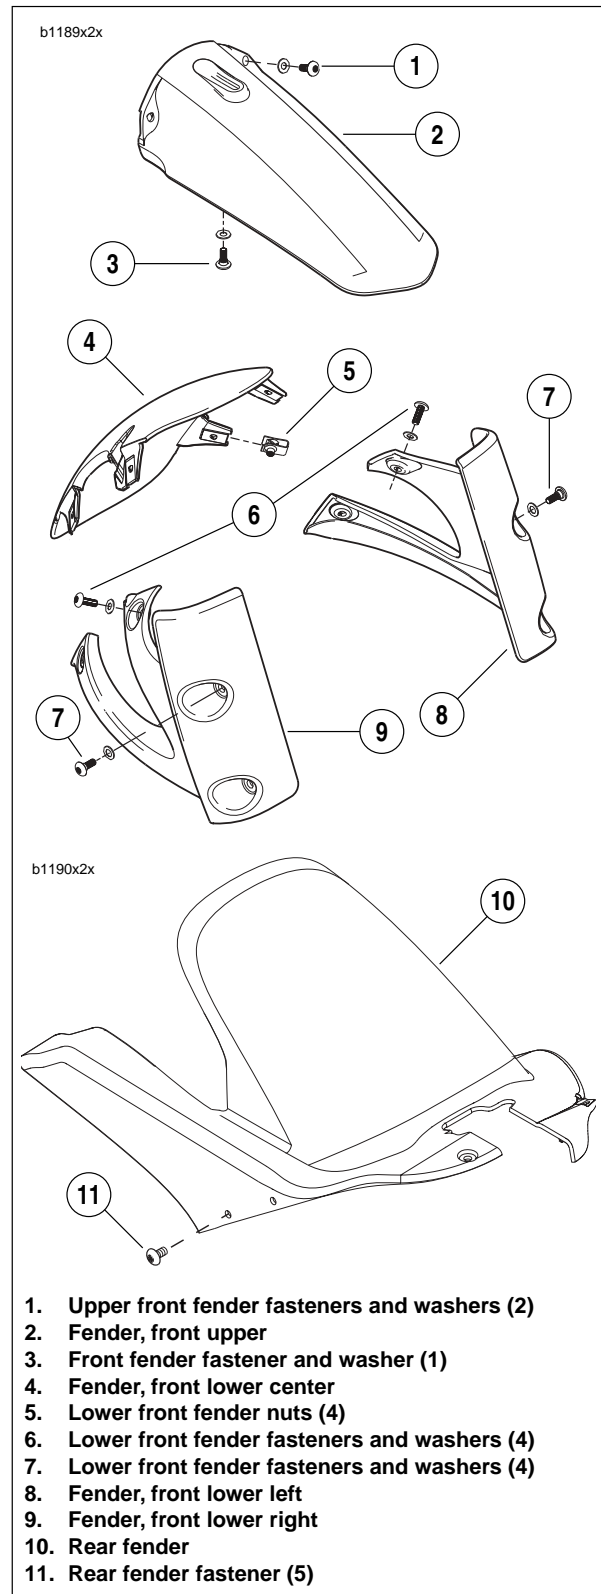

Figure 2-122. Front and Rear Fenders
1. See Figure 2-122. Remove fasteners and washers (1) securing the upper front fender (2) to lower triple clamp.
2. Remove fastener and washer (3) from headlight assembly. Carefully remove upper front fender (2).
1. See Figure 2-122. Align upper front fender (2) to fender mounts on lower triple clamp, apply LOCTITE 271 (red) and install front fender fasteners and washers (1) and tighten to 36-48 **in-lbs** (4.0-5.4 Nm).
2. Install front fender fastener and washer (3) and tighten to 36-48 **in-lbs** (4.0-5.4 Nm).
1. See Figure 2-122. Remove fasteners and washers (11) securing the rear fender (10) to swingarm.
2. Remove rear fender (10).
1. See Figure 2-122. Align rear fender (10) to swingarm and brake line.
2. Install rear fender (10) with fasteners and washers (11). Tighten to 12-36 **in-lbs** (1-4 Nm).